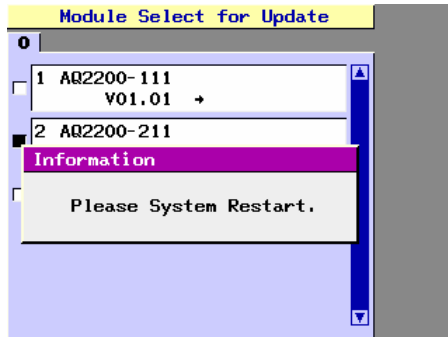

Fig. 9-9 Update Complete Screen
12. Update is complete when Update Complete Screen shown in Fig. 9-9 appears. Turn OFF the power, then turn it ON again and check the software version. Update has been completed successfully if the new software version is shown. For the software version, see section 7.10, "Displaying the Unit Information" (P7-120).